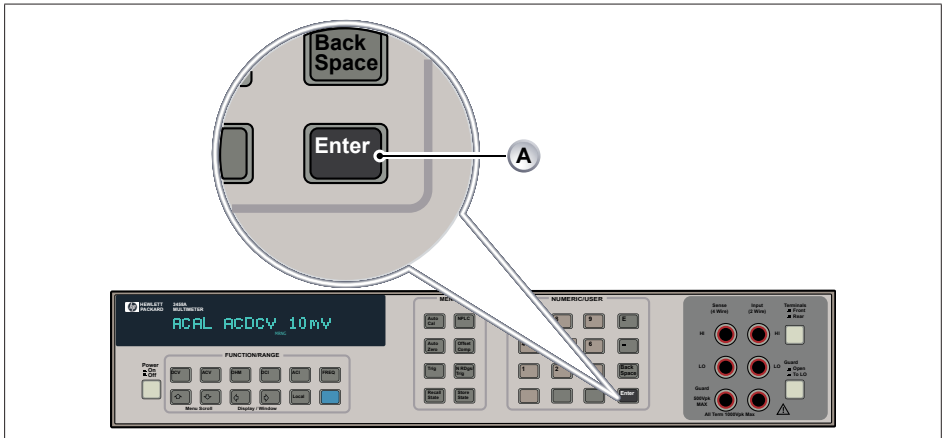

Fig. E.22 HP3458A Multimeter Zero calibration (Part 3)
4. Select the **Enter** button (see Fig. E.22). The automatic calibration starts with the status info displayed.